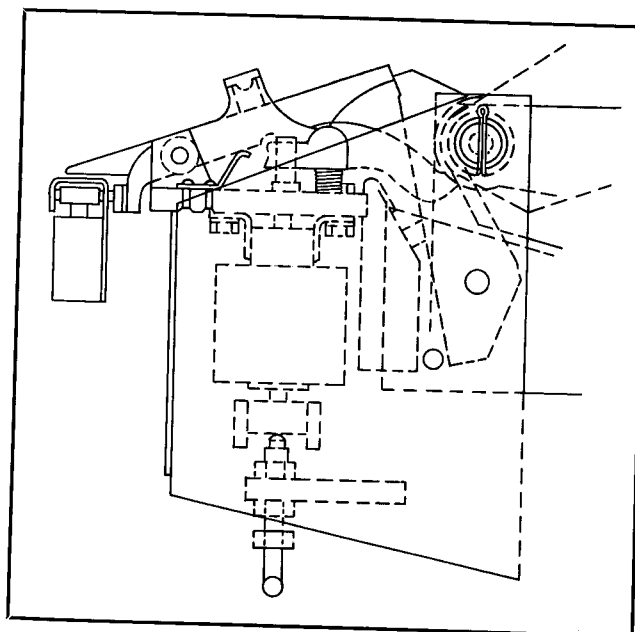

FIG. 6. Double Latch
**Double Latch** (For 5-Cycle Breaker Applications). The double latch (Fig. 6) differs from the toggle latch principally in that a trigger replaces the toggle arrangement to hold the automatic latch engaged on the automatic lever roller. Raising the trip rod lifts the trigger allowing the latch to release the roller and automatic lever. The light weight laminated moving trip core and the